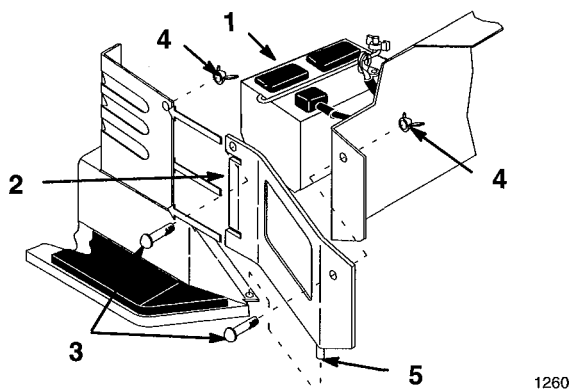

Figure 34
3. Remove side panels for clearance when removing battery (Fig. 34). Remove the wing nuts and screws and lift up to clear pin and slide panel tabs out from steering tower.
7. Install the battery into the chassis (Fig. 34).
11. Install side panels by sliding tabs into steering tower and inserting pin into flange of footrest. Secure with screws and wing nuts (Fig. 34).